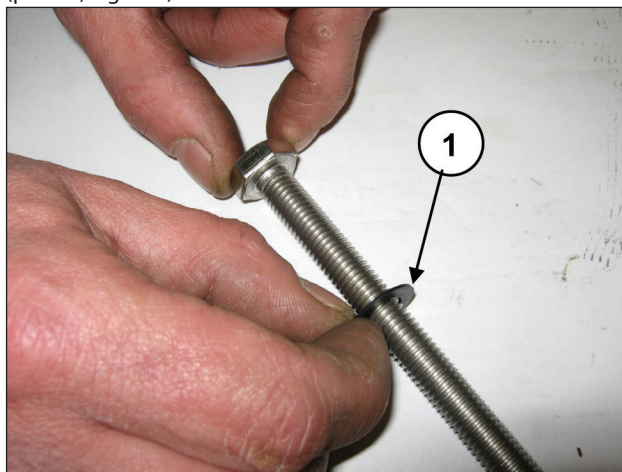

Fig. 181
Insert the  $\varnothing 10 \times 18 \times 0.9$  washer in the piston fixing screw (pos. ①, Fig. 181).